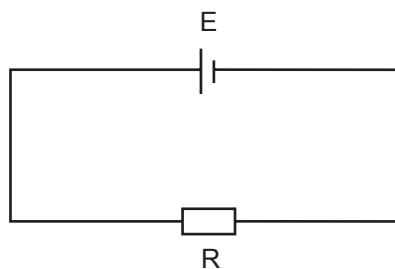

Figure 4.1 Circuit with a battery and a resistor
We learnt in Chapter 1 that symbols are used to represent electrical components. Diagrams of circuits drawn using these symbols are called **circuit diagrams**. Figure 4.1 shows a circuit diagram with a battery and a resistor.
For a current to flow in a circuit, there must be a **source** to provide the e.m.f. needed to move electric charges around the circuit. The source in Figure 4.1 is a battery. Power supply units such as the one shown in Figure 4.2 are also commonly used as sources. Specifically, the battery and power supply unit are called **direct current (DC) voltage sources** because they provide a constant e.m.f.
The resistor in Figure 4.1 is the **load**. A load is a component which converts the electrical energy supplied by a source into other forms such as light, heat or kinetic energy.